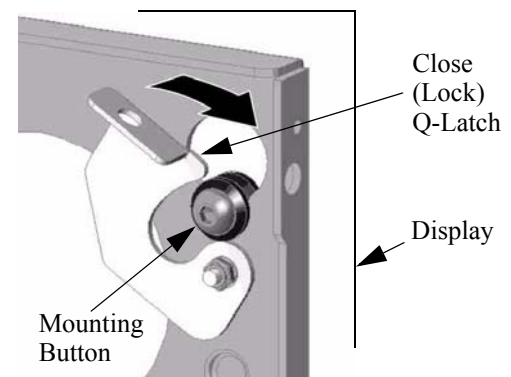

FIGURE 12. CLOSE Q-LATCH
4. Secure the display to the PFB by completely engaging the Q-latch (see Figure 12).